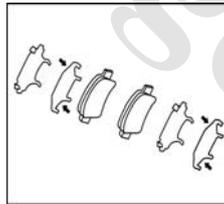

Fig. 2-58
① Smear grease for disc brake on the two sides of each silencer pad. See Fig. 2-58.